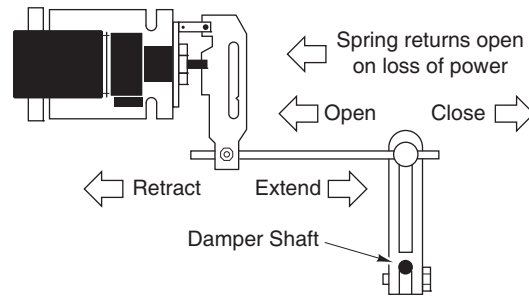
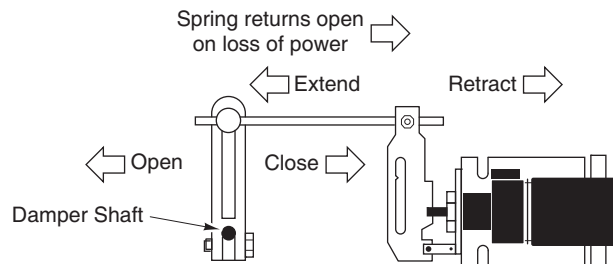

Figure-13 Dampers Open When Actuator Retracts (Spring-Returns Open on Power Loss).
Figure-14 Dampers Open When Actuator Extends (Spring-Returns Closed on Power Loss).
- a. Determine, from the system requirements, if the damper should spring-return to the open position (Figure-13) or closed position (Figure-14) whenever power is lost to the actuator. For example, an outside air damper actuator is typically linked so as to retract (spring-return) to the damper's fully closed position (safe position).